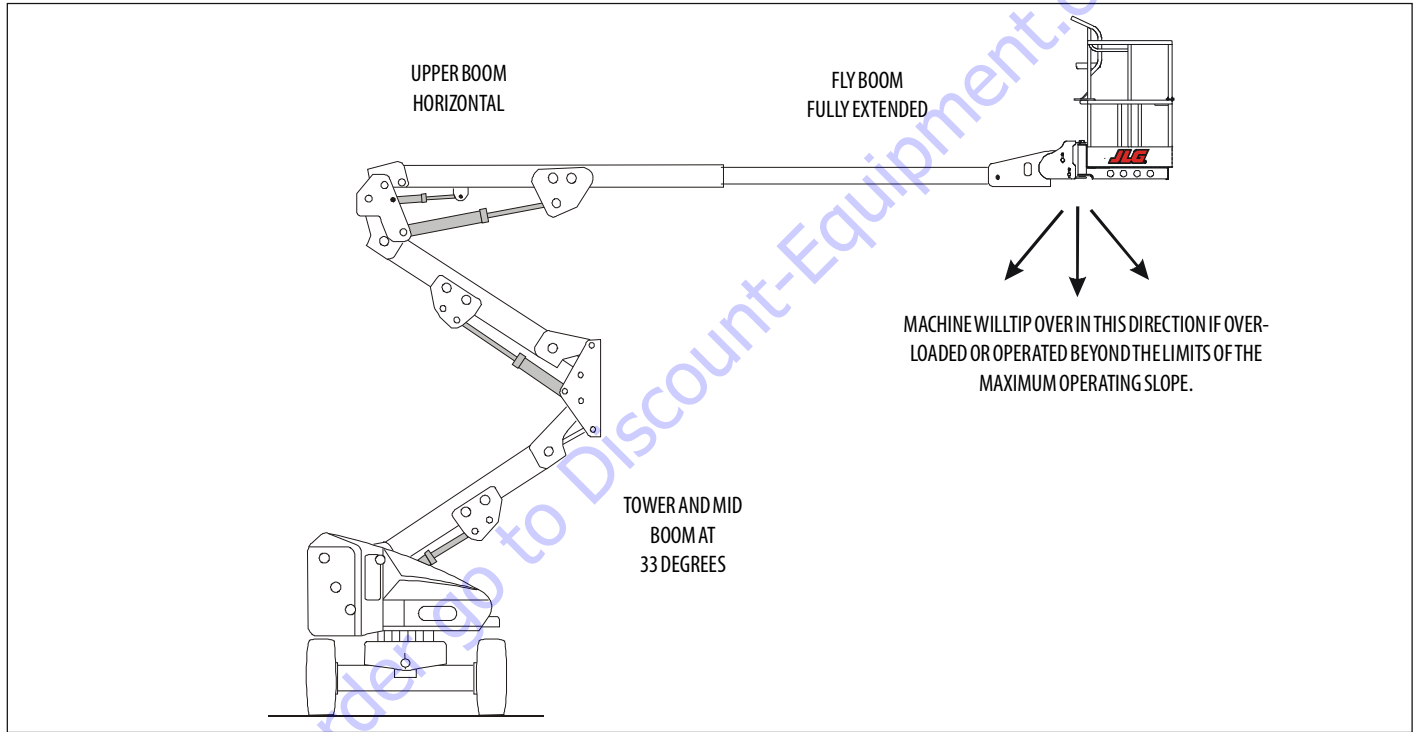

Figure 4-1. Position of Least Forward Stability
Machine stability is based on two (2) positions which are called Forward and Backward stability. The machines position of least Forward stability is shown in Figure 4-1., Position of Least Forward Stability, and its position of least Backward stability is shown in Figure 4-2., Position of Least Backward Stability.